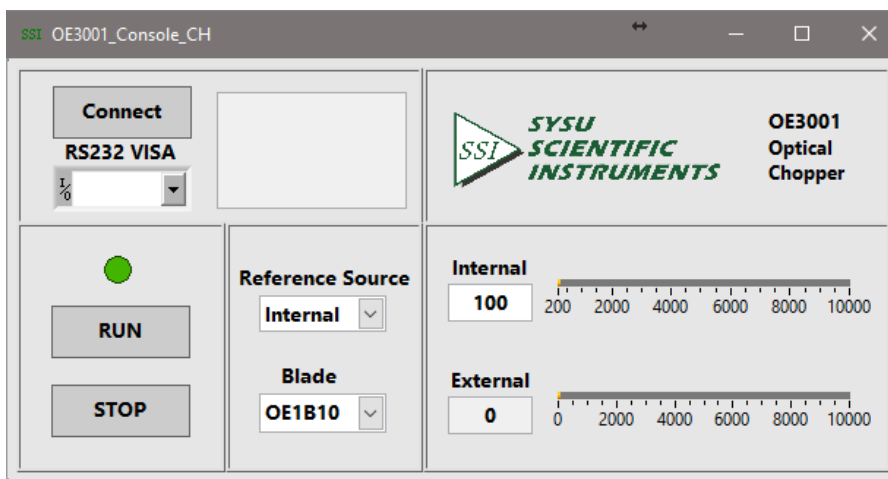

Fig11. OE3001 Software interface
1. Open the first file "OE3001\_Console\_EN" and then double click the "OE3001\_Console\_EN.exe". If the former steps succeed, then Fig.11 will occur.